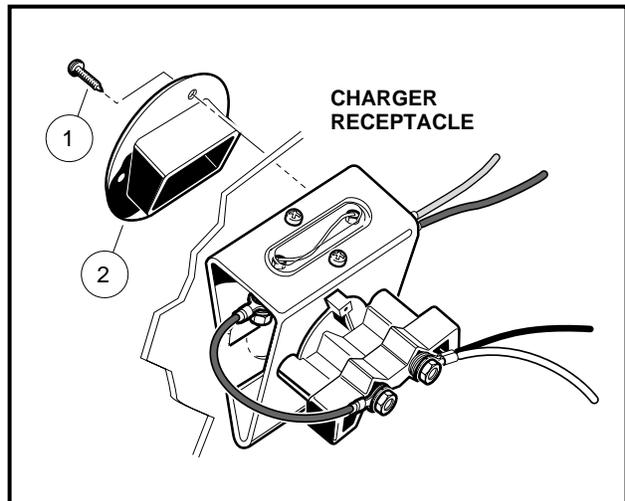

Figure 4-5 V-Glide Charger Receptacle
- **V-Glide 36-volt vehicles (Figure 4-5, Page 4-6):**
- 5.1. Remove the four phillips head screws (1) that secure the receptacle bezel (2) to the rear body.